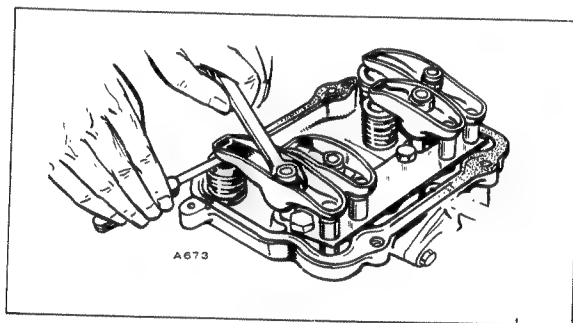

Fig. 20 Valve Adjustment
**VALVE CLEARANCE.** - Check valve clearance when engine is at room temperature (about 70°F). Turn flywheel so piston in cylinder to be checked is between 10° and 45° ATC on the power stroke for that cylinder. Adjust the clearance (see fig. 20) to the values specified in the Table of Clearances. Whenever valves are adjusted on DJA models re-adjust the decompression release.